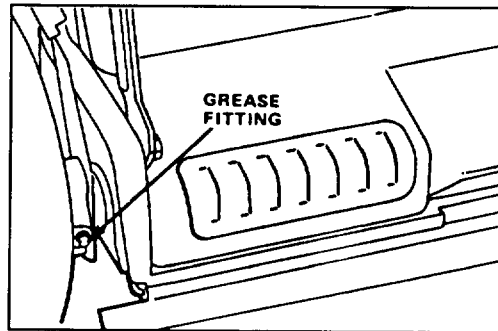

Figure 20
2. Move rear wheel height-of-cut levers to "2" setting. Wipe grease fittings with clean rag (Fig. 20). Install grease gun onto fitting and gently apply two or three pumps of #2 Multi-Purpose Lithium Base Grease.